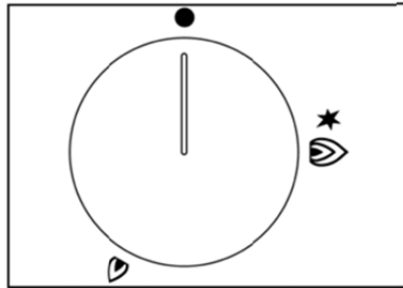

Fig. 18
- **Manual lighting (it is always possible even when the power is cut off):** Turn the control knob that corresponds to the burner selected anticlockwise, setting it to the MAXIMUM position at the etched star (large flame on the control knob (Fig. 18) and hold a lit match to the burner. Press the control knob down and hold for 2 seconds after the burner ignites so the flame safety device (thermocouple) engages. Release the control knob and adjust to the correct setting.
- **Electric ignition:** Turn the knob that corresponds to the burner selected anticlockwise, setting it to the MAXIMUM position (large flame on the control knob (Fig. 18). Keep pressing the knob down at this position until the burner ignites and then wait for 2 seconds so the flame safety device (thermocouple) engages. Release the control knob and adjust to the correct setting.
- When the liquid is boiling turn the knob to the MINIMUM position (small flame Fig. 18).